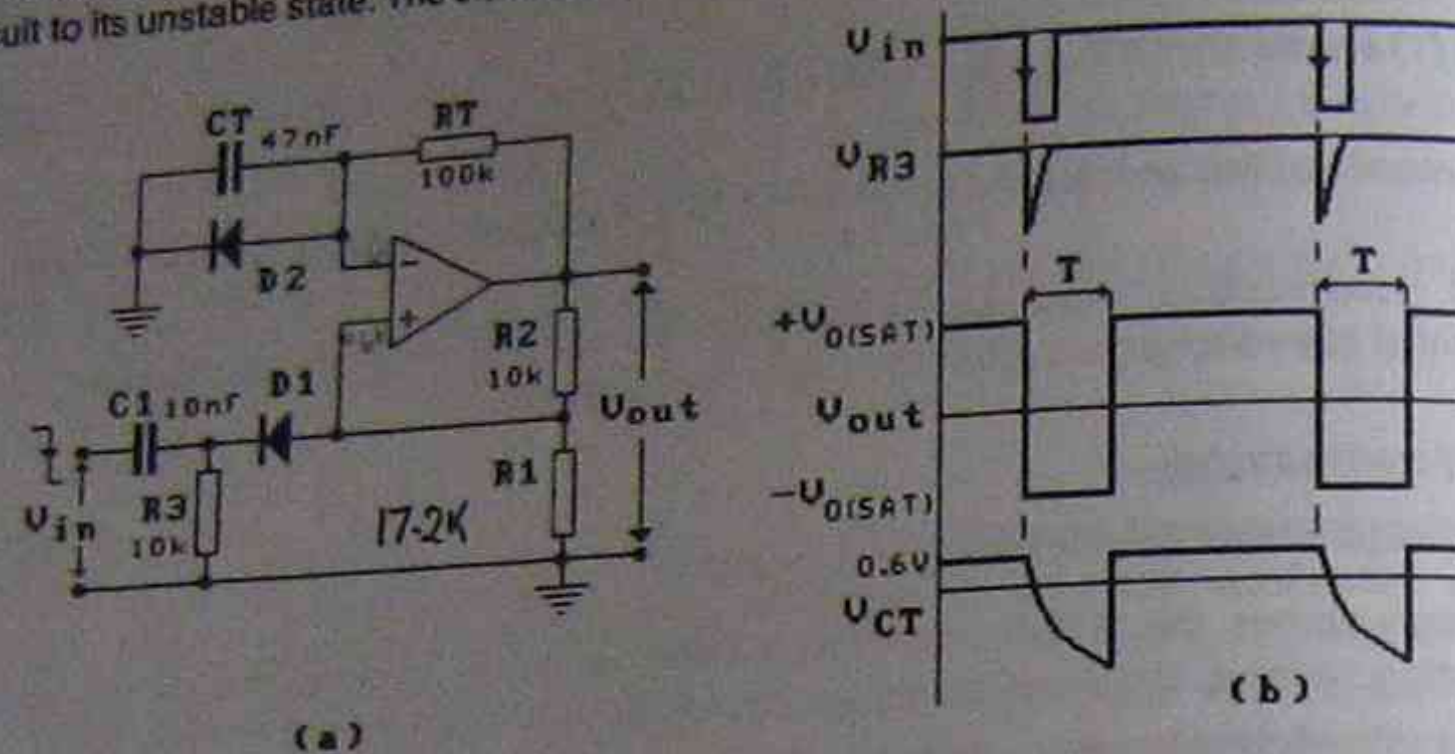

Fig.3: The op amp monostable.
A monostable is a circuit with one stable state, and requires a trigger pulse to cause it to enter the unstable state, in which it remains for a predetermined period before reverting back to its normal or stable state. Fig.3(a) is a monostable, in which a negative pulse is used at V_{in} to trigger the circuit to its unstable state. The stable state for this circuit is when V_{out} is at $+V_{O(SAT)}$.
(1) Time (T) equals $2RTCT \ln \frac{1}{(1-B)}$ Where B equals $\frac{R_1}{R_1 + R_2}$
(2) If the natural log (\ln) term equals 1, $T = RTCT$, which occurs if $B = 0.632$ or if $R_1 = 1.72R_2$
- The stable state for Fig.3(a) is the condition of $V_{out} = +V_{O(SAT)}$. Thus, the voltage at the (-) input is 0.6V, (caused by D_2) and that at the (+) input some higher value. [$B \times V_{O(SAT)}$].
The waveforms of Fig.3(b) show the input trigger, the output waveform and the voltage across C_T . Note that when a negative going pulse is applied to the input, C_1 and R_3 convert it into a negative going spike as shown. During the unstable state, further input trigger pulses will have no effect.